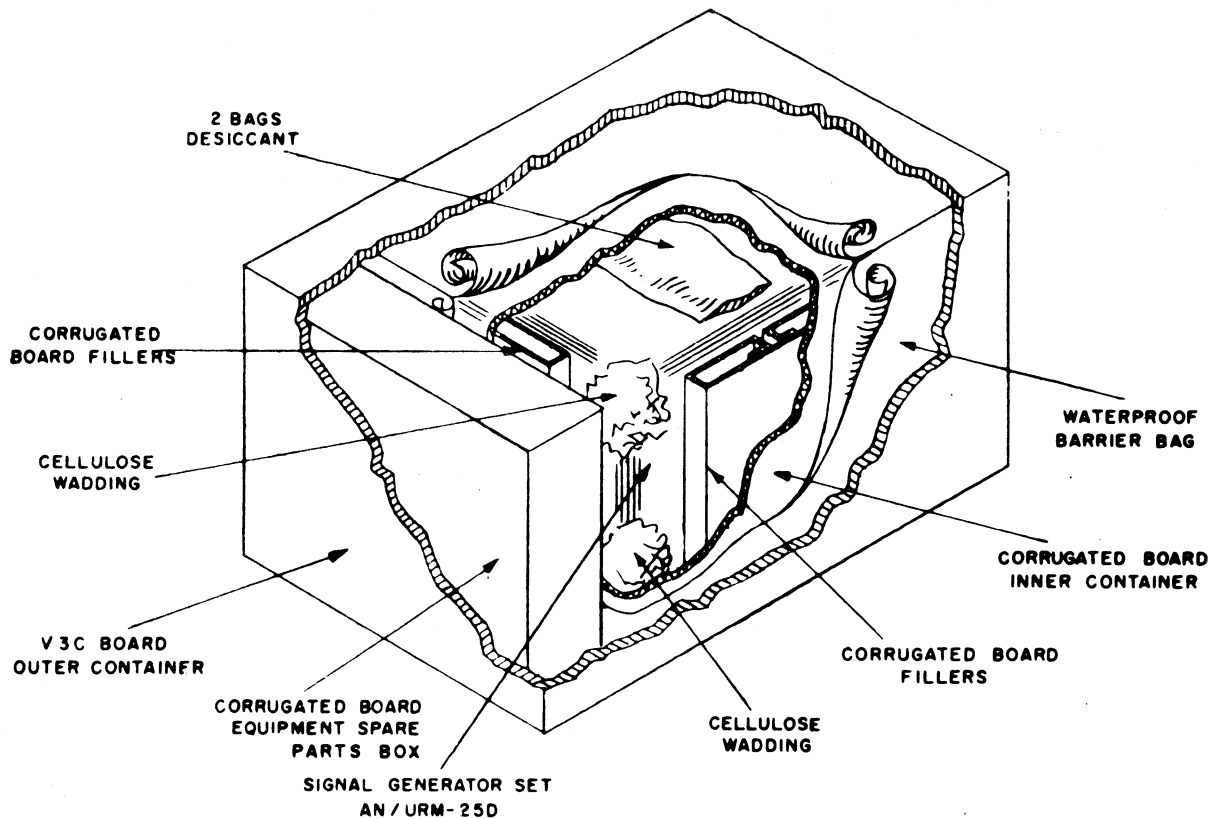

Figure 3-1. RF Signal Generator Set AN/URM-25D, Packaging Diagram
a. The AN URM-25D is packed in a V3C board box together with a set of equipment spares. Electron tubes are shipped in place. The Signal Generator with accessories and the set of spares are individually enclosed in separate, specially cushioned cardboard cartons. Great care should be exercised in removing these items (figure 3-1).